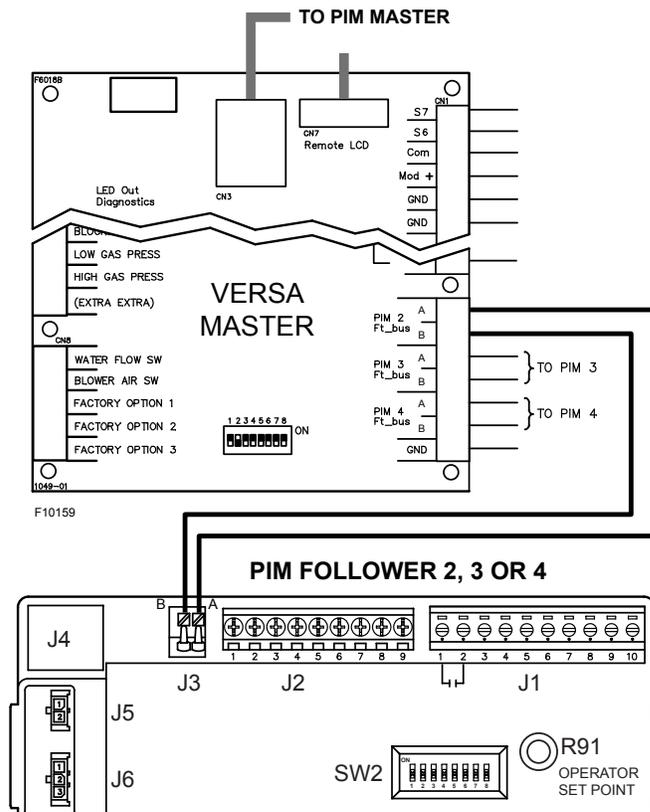

Figure 20. XFire Cascade System Wiring
3. Route the FT\_BUS wires from the front along the top rails and out the back of the cabinets as shown in **Figure 20**.
3. Connect the system supply sensor to terminals 3 and 4 on the J2 connector located on the Master PIM. See **Figure 20**.
4. Connect the Outdoor sensor (if used) to terminals 5 and 6 on the J2 connector located on the Master PIM. See **Figure 20**.
5. Connect the Enable/Disable wiring to terminals 9 and 10 on the J1 connector located on the Master PIM. See **Figure 20**. This connection must be provided through dry contacts closure.
- Once the primary boiler has been identified, additional boilers will be designated as follower boilers. Ensure DIP switch 2 on each follower VERSA is set to the OFF/Down position. See **Figure 20**.